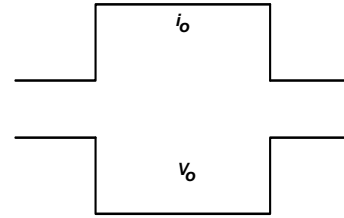
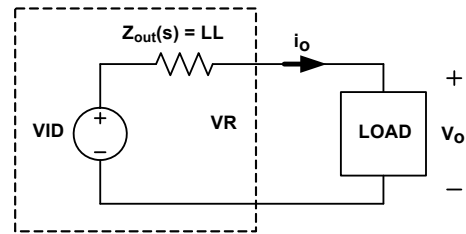

FIGURE 21. DESIRED LOAD TRANSIENT RESPONSE WAVEFORMS
FIGURE 27. VOLTAGE REGULATOR EQUIVALENT CIRCUIT
Assuming the compensator design is correct, Figure 21 shows the expected load transient response waveforms if  $C_n$  is correctly selected. When the load current  $I_{core}$  has a square change, the output voltage  $V_{core}$  also has a square response.
Figure 21 shows the desired load transient response waveforms. Figure 27 shows the equivalent circuit of a voltage regulator (VR) with the droop function. A VR is equivalent to a voltage source (= VID) and output impedance  $Z_{\text{out}}(s)$ . If  $Z_{\text{out}}(s)$  is equal to the load-line slope LL, i.e., a constant output impedance, then in the entire frequency range,  $V_{\text{o}}$  will have a square response when  $I_{\text{o}}$  has a square change.